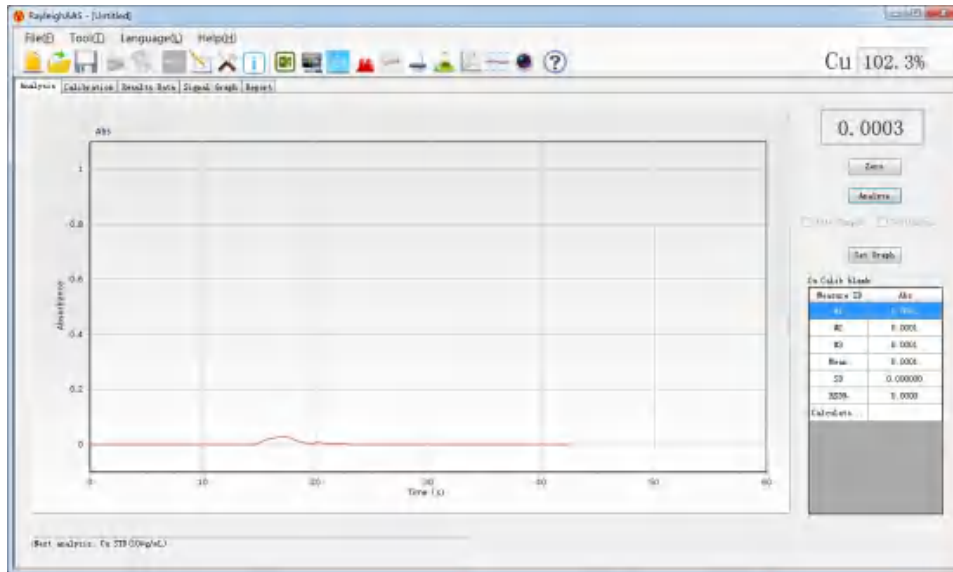

Fig. 3-6 The main page of measurement
- a. The main page of measurement is shown in Fig. 3-6 above.